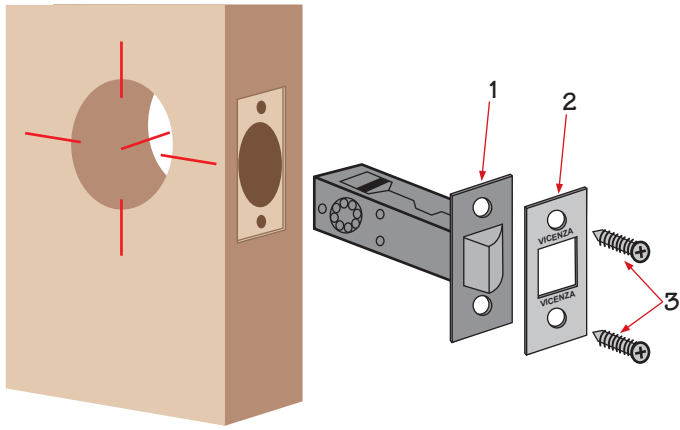

FIGURE 1
1. Insert the passage latch into the 1" edge bore. Cover the latch bolt with the face plate and secure with 2 wood screws. (Figure 1)